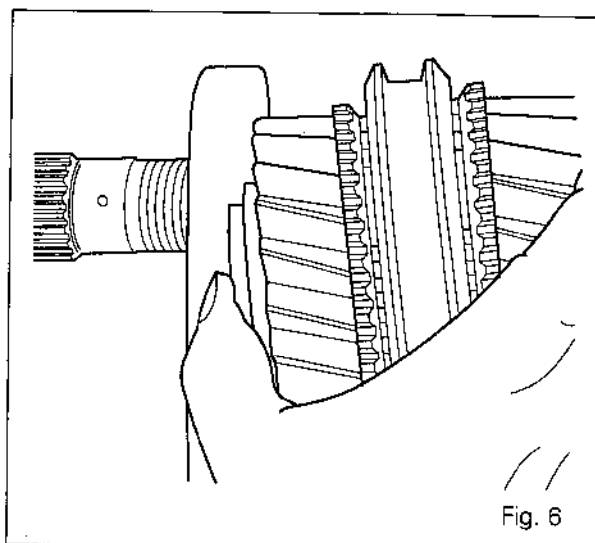

Fig. 6
Note : The angular position of the piston depends on the lubrication ports of the clutch housing (18). Align the indexing holes drilled in the housing and the piston (Fig. 6). For alignment, use a pin of an appropriate diameter. Complete installation of the piston by gradually striking around it with a plastic hammer. Check that there are no chips from the gasket after assembly.
51. If removed, fit bearing (22) with an appropriate tool. The sealed side is directed towards the Dynashift. Fit circlip (21).
22. Using an appropriate tool, force-fit bearing cone (17) on shaft (69) (if removed) using a press.
23. Install locking ring (70).
24. Install cups (2) (16).
25. Install the 1st, 2nd pinion, synchronizer (11), cones (73) (74) and bush (8) assembly.
26. Fit the shaft from the rear of the housing while holding the pinion/synchronizer assembly together (Fig. 6), making sure that bush (8) is correctly fitted in pinion (14).
10. Check for the presence of the two centring pins (16) (Fig. 6).
12. Alternatively take out guide studs "G2" and fit the bolts (7) smeared with Loctite 241, tighten to a torque of 15 - 20 Nm.
13. Take out the guide studs "G1". Refit the supports taken off in step 4. Fit and tighten the bolts (10) (19) to a torque of 90 - 120 Nm.
14. If necessary, replace the O-ring (21) on bowl (20). Fit the strainer (6) and tighten the bowl.